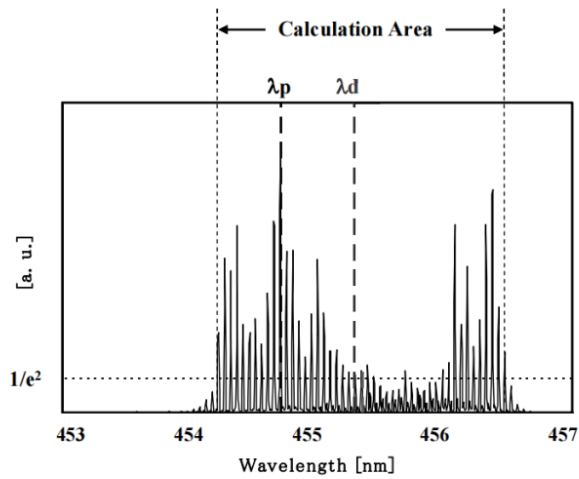

Fig.2 Definition of the Dominant Wavelength
*2) λ_d is defined from trichromatic coordinate (x, y) values on chromaticity diagram calculated from the peak intensity higher than $1/e^2$ shown in Fig 2.